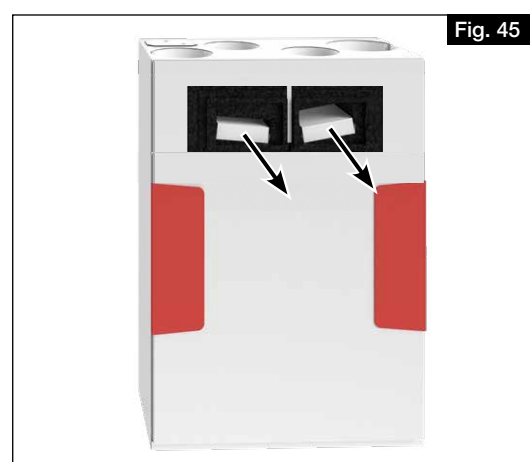

Fig. 45
2. Pull filter to the front and replace (see Fig. 45).